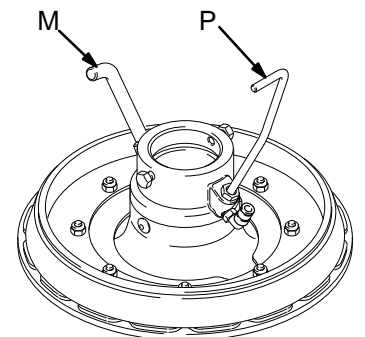
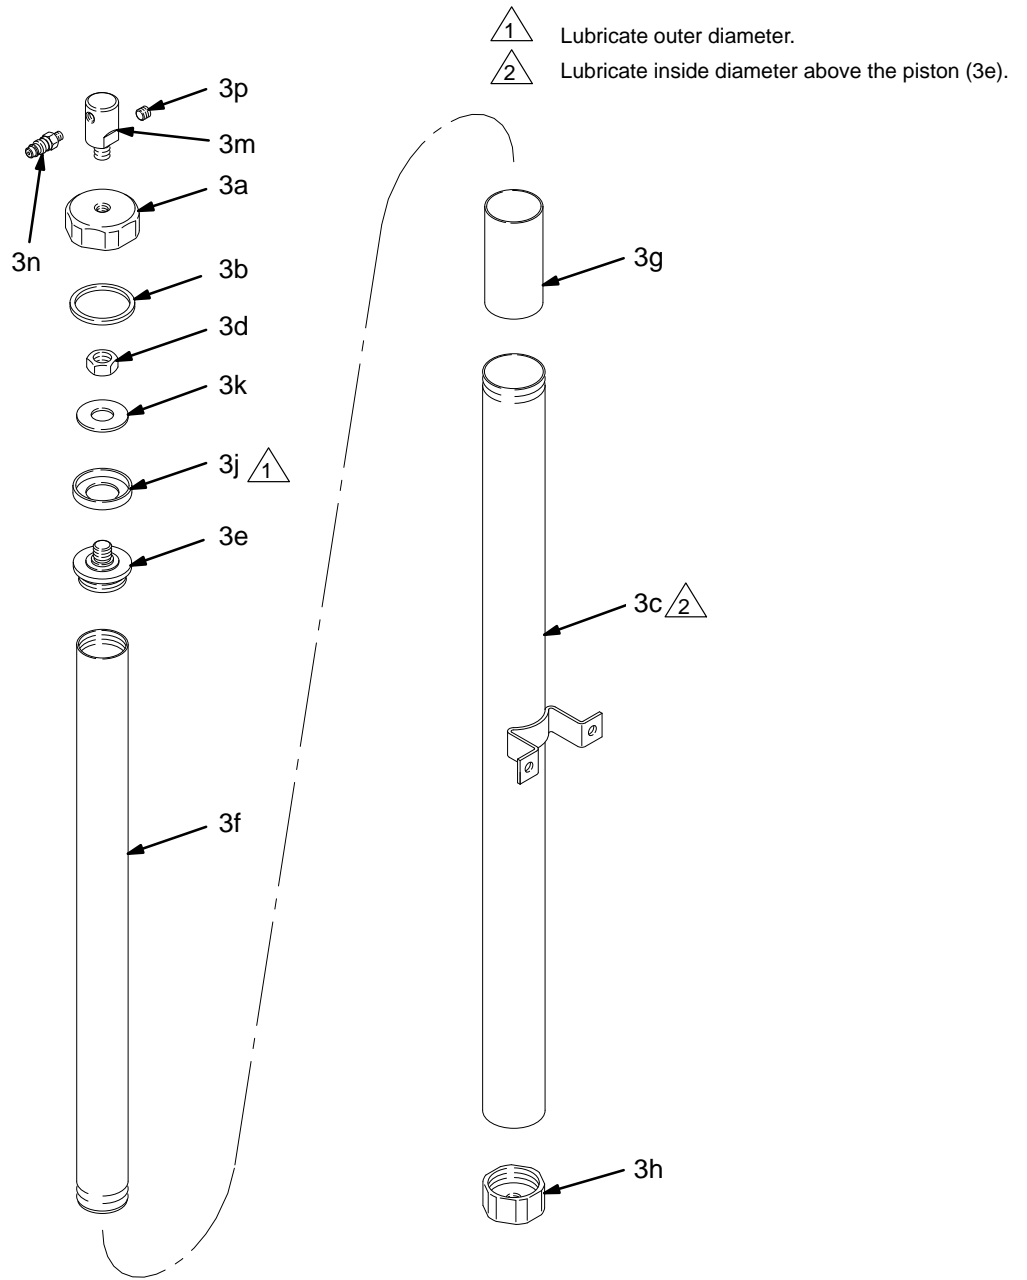

Fig. 2
Fig. 3
The elevator tube (F) and frame slides (G) move up and down when the elevator is in operation, and can pinch fingers or hands caught between them and the cart frame. Keep your hands away from the elevator tube, frame slides, and the frame of the cart when the elevator is in operation. See Fig. 2.
The wiper plate (K) moves downward as the elevator is lowered, and can pinch or amputate fingers or hands caught between it and the lip of the fluid container. Keep your hands away from the wiper plate and the lip of the fluid container when the elevator is in operation. See Fig. 2.
1. Disconnect the female quick coupler from the pump air inlet fitting (L) and connect it to the air inlet fitting (3n) on the elevator. Turn on the main air. See Fig. 2.
2. Raise the elevator to its maximum height, so the hanger (H) on the cart handle is below the hook (J) on the elevator frame.
3. Place a 19 liter (5 gallon) pail of fluid on the base of the cart. Slide the pail back against the pail stop (15). The pail stop is adjustable to four positions, to properly align the pail with the wiper plate (K).
1. Pull the hanger (H) upward and hold it firmly against the handle of the cart. Disconnect the female quick coupler from the elevator air inlet fitting (3n) and connect it to the pump air inlet fitting (L). After a short delay, the weight of the pump will cause the elevator to move downward. Continue to hold the hanger (H) against the cart handle until the hook (J) on the frame is low enough to prevent it from engaging the hanger. See Fig. 2.
2. If necessary, push down on the top of the pump to help the wiper plate (K) enter the pail. When the wiper plate enters the pail, open the wiper plate vent (M) and leave it open until fluid appears at the vent hole. Close the vent.
2. Set the air release toggle valve (N) to the open position (down). The toggle valve directs air under the wiper plate, making it easier to pull the plate out of the pail. See Fig. 2.
3. **For Stainless Steel Wiper Plate 222–909 only:** Rotate the long handle (P) in the wiper plate housing 45° **clockwise** and pull the handle upward (it should travel about 1/2 inch up and down). This opens a passage for air to assist in getting the plate out of the pail. See the Detail in Fig. 2.
4. Disconnect the female quick coupler from the pump air inlet fitting (L), and connect it to the elevator air inlet fitting (3n). After a short delay, the elevator will begin to raise the pump from the pail.
2. Lower the elevator as explained on page 4. Remove the air release toggle valve (N). See Fig. 2.
3. Remove the screws, nuts and washers holding the elevator (3) to the cart base plate (10) and frame (12). Refer to the parts drawing on page 8.
4. Unscrew the air valve housing (3m). See Fig. 3. If clogged or dirty, clean.
11. Screw the air valve housing (3m) into the top cap (3a). Install elevator onto cart base (10) and frame (12), using screws, nuts and washers. Reinstall the air release toggle valve (N). See Fig. 2.